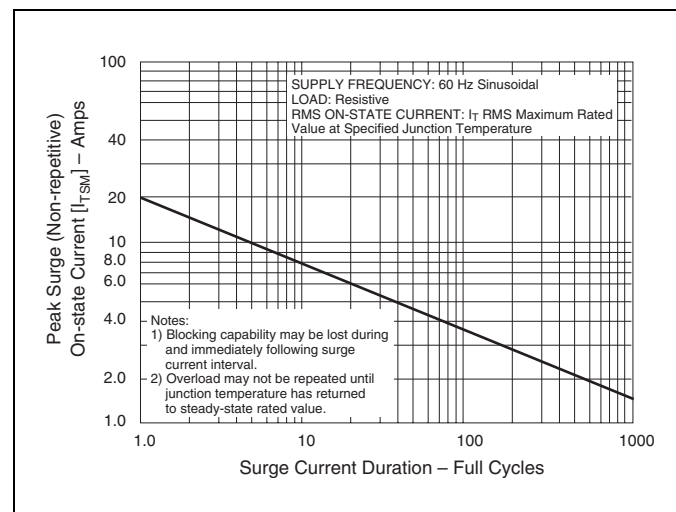

Figure E9.1 Peak Surge Current versus Surge Current Duration
- See Figure E9.1 for more than one full cycle rating.